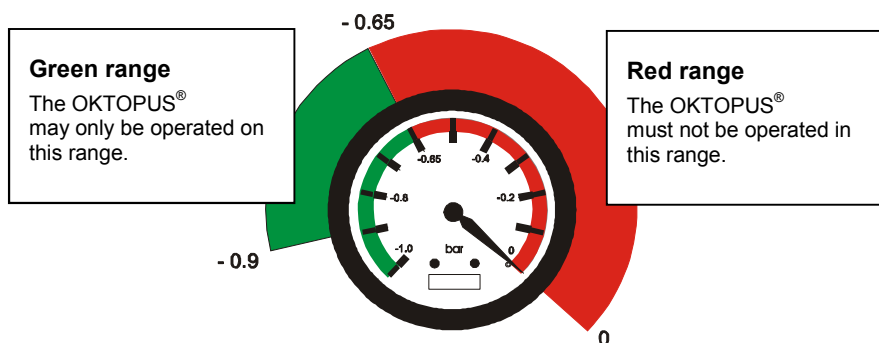

Fig. 6: Vacuum gauge
The OKTOPUS® GLASS-Jack GL-KN 1000 mounted to the crane is ready for use, when a sufficient vacuum level is reached in both vacuum tanks. The current vacuum level is constantly indicated on the vacuum gauges (figure 6).
- ⇒ You can lift the load only if the red warning light and the alarm buzzer have turned off, the vacuum gauges indicate that the working range has been reached (see figure 6), the green signal light is illuminated and you have ensured that nobody is in the danger area.